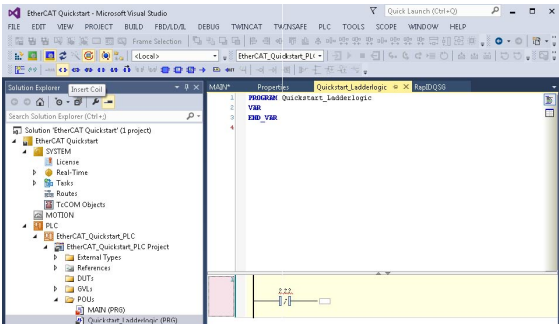
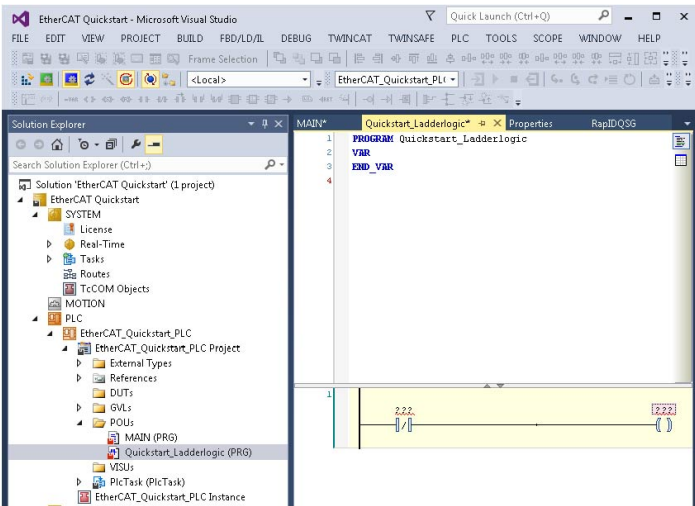
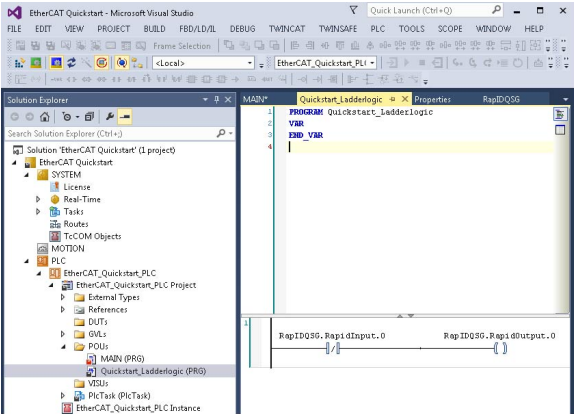

Figure 48. Insert Coil
Figure 49. Output Energize Inserted
Figure 50. Input and Output Mapping
6. With the network highlighted, click the **Insert Coil** button (see Figure 48 and Figure 49). The input and output are assigned to the PLC program. There are spaces above the negated contacts with three question marks (? ? ?) above these contacts. Enter **RapIDQSG.RapidInput.0** in the left ? ? ? spot and **RapIDQSG.RapidOutput.0** in the right ? ? ? spot to assign the input and output variables to the negated contacts. The screen then resembles what is shown in Figure 50.